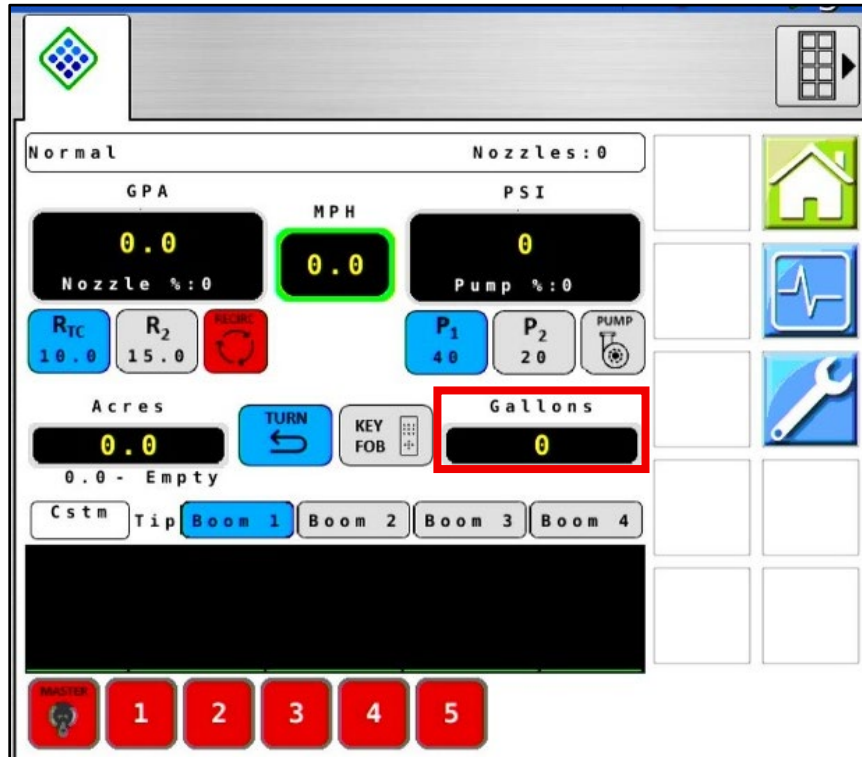

Figure 25 – PinPoint III Home Screen
50. **Figure 25:** Once system is restarted from previous step, tap the **Gallons** text input area to open the **Tank Meter** popup.